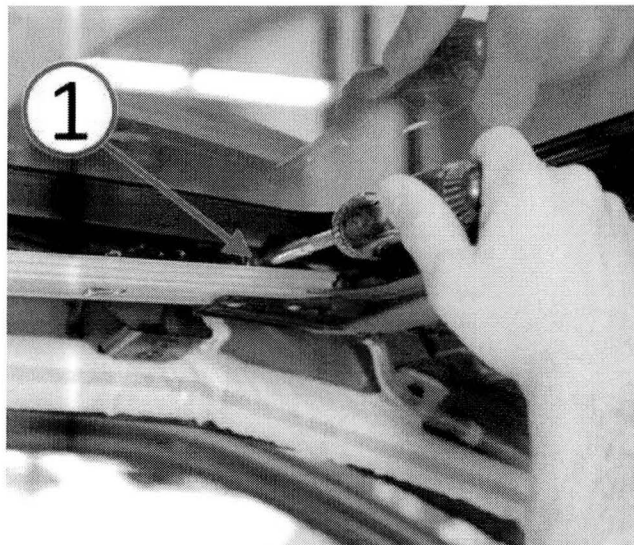

Fig. 11 Sunroof Glass Panel Set Screw
17. Using a T-25 star head driver or 8 mm socket, tighten the sunroof set screws to 3 N·m (26 in. lbs.) as each corner is set to the proper flushness specification per the following flushness adjustment steps (Fig. 11).